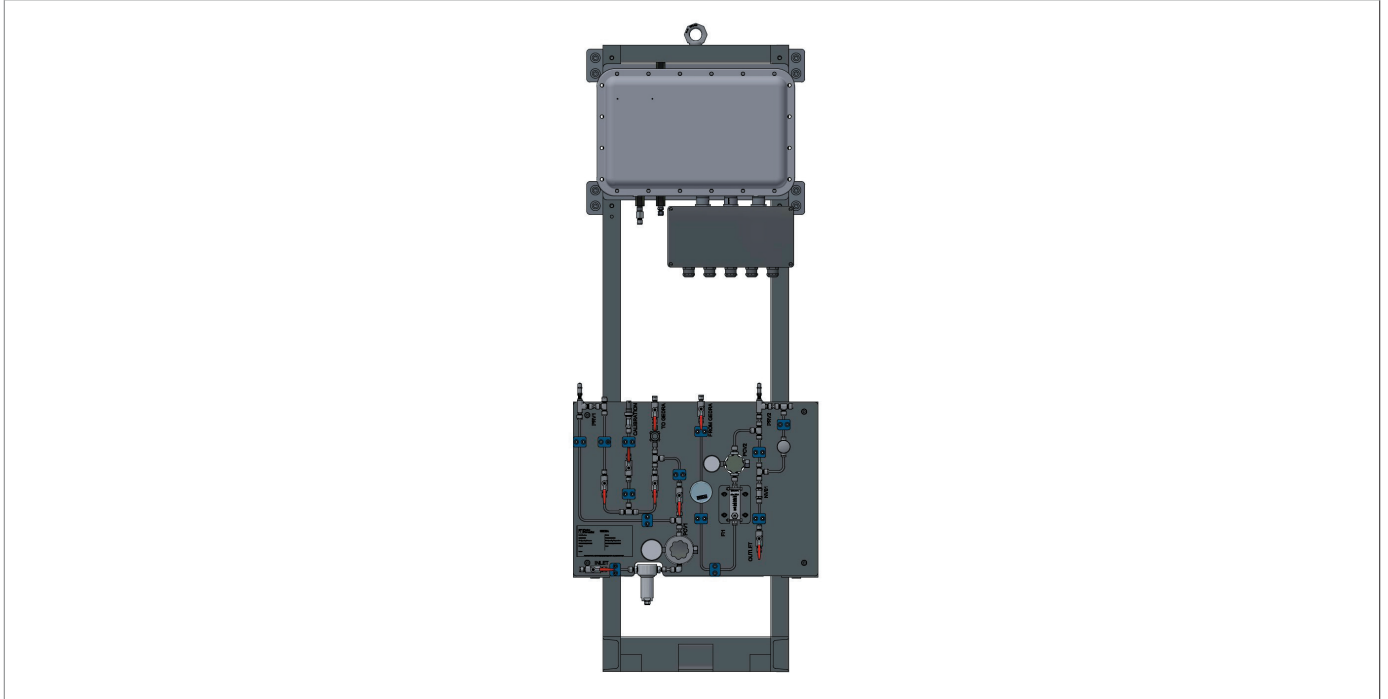

Fig. 4.18. *Indoor frame*
- with an internal frame (Fig. 4.18), this method requires fixing to the ground;